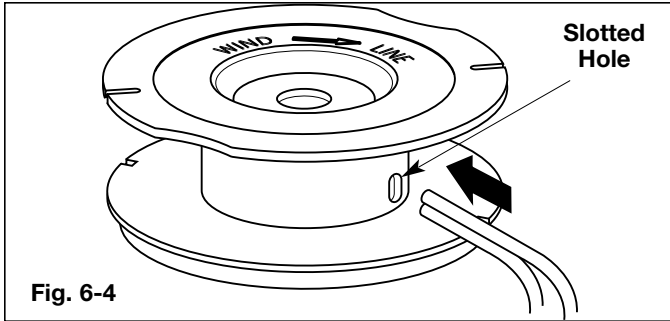

Fig. 6-4
7. Holding the two pieces together with the ends even, insert the lines into the slotted hole in the inner reel (Fig. 6-4). Only about 1/2 inch of line will fit in hole. Do not force line in hole.
9. Take approximately 10 feet (3 m) of new trimming line. Insert one end of the line into the slotted hole in the inner reel (Fig. 6-4). Only about 1/2 inch of line will fit in hole. Do not force line in hole.